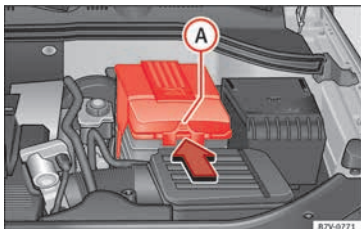

Fig. 249 In the engine compartment: remove the lid from the vehicle's battery.
- *In the case of a lid:* press the tab » **Fig. 249** in the direction of the arrow and pull the cover upwards.